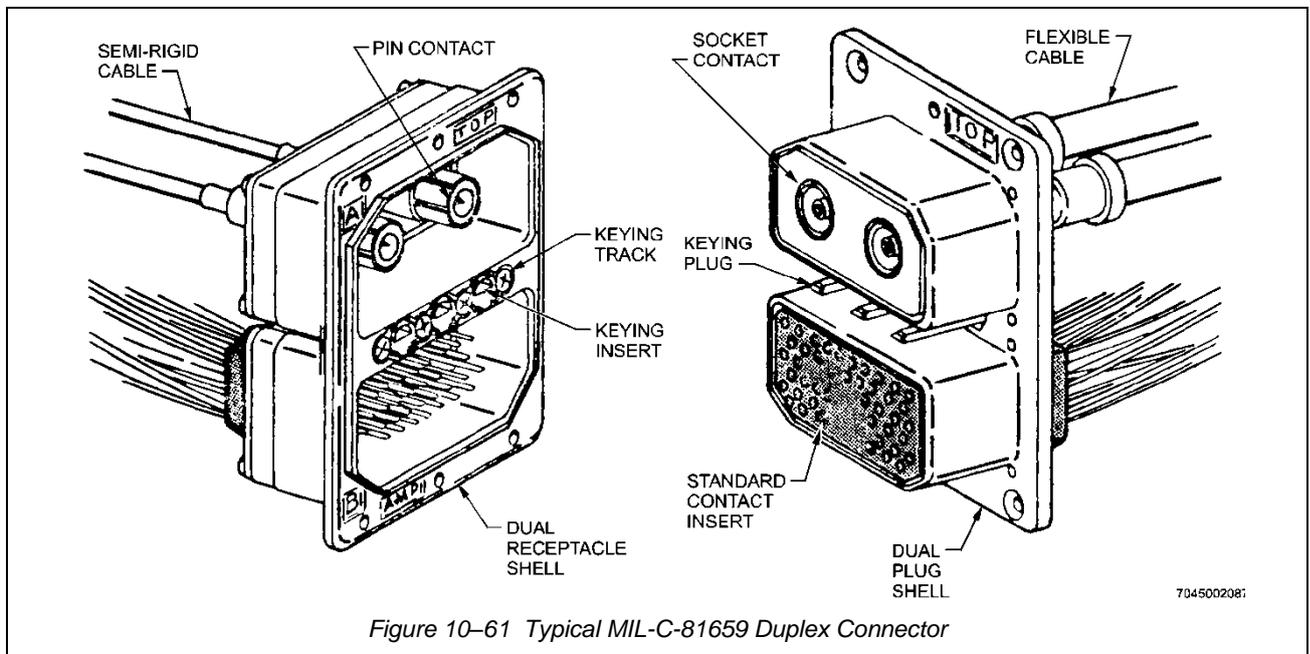
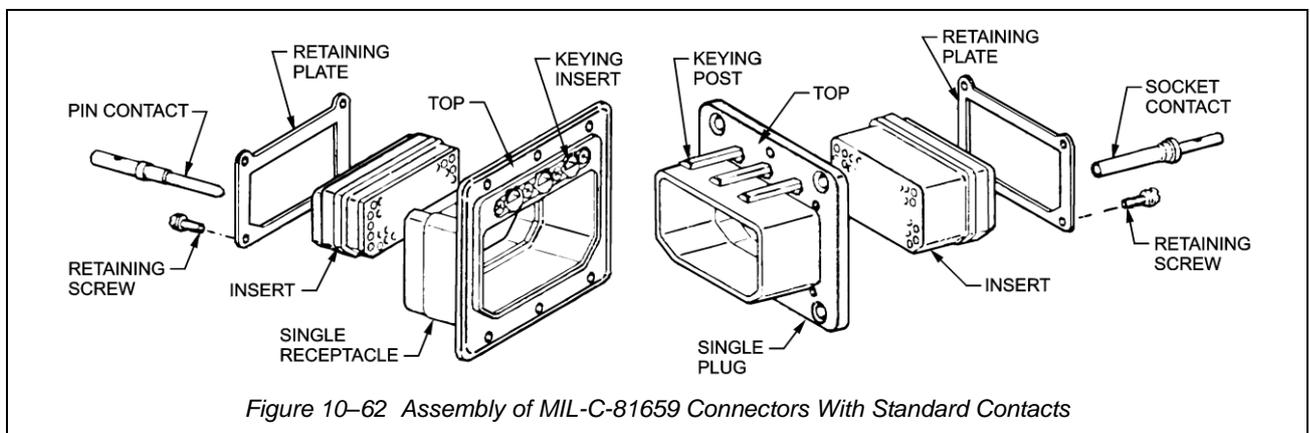

Figure 10-61 Typical MIL-C-81659 Duplex Connector
Figure 10-62 Assembly of MIL-C-81659 Connectors With Standard Contacts
**106.** The method of assembling and disassembling MIL-C-81659 connectors with standard contacts or with rear-release coaxial contacts is shown in Figure 10-61. The method of disassembling the polarizing or keying assembly to change the polarization position is shown in Figure 10-62. The method of assembling and disassembling MIL-C-81659 connectors with non-releasable coaxial contacts is shown in Figure 10-61.